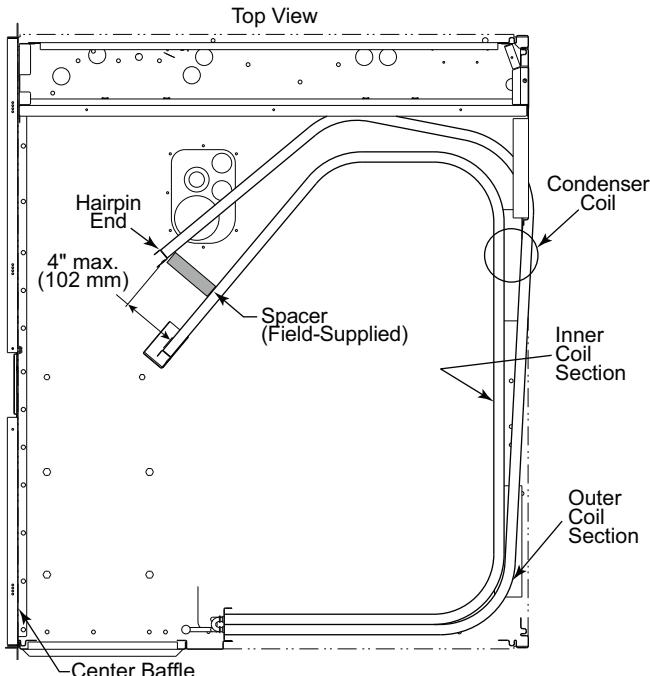

Fig. 21 — Separating Coil Sections
8. Insert a spacer (field-supplied) between the tube sheets to hold the coils apart (see Fig. 21).